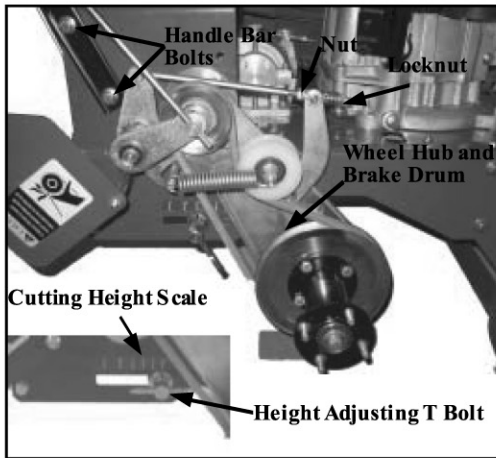
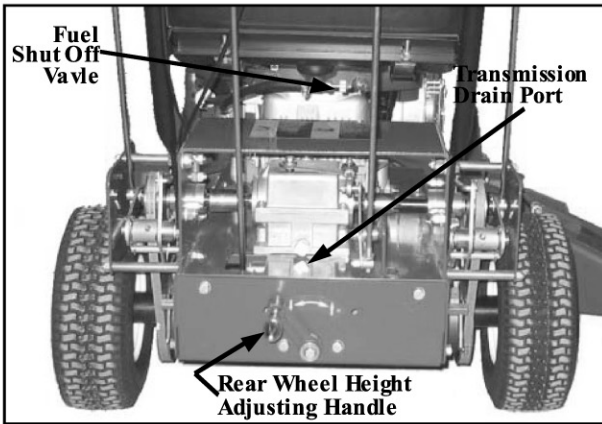

FIG 11 Brake Linkage
FIG 15 Rear Wheel Height Adjustment
WHEEL BRAKE ADJUSTMENT FIG 11
5. To adjust the Rear Wheel settings refer to FIG 11. Loosen both height adjusting T-Bolts. Unlock the Rear Wheel Height Adjusting Handle FIG 15. Rotate the Handle clockwise to raise and counterclockwise to lower the Rear Wheels. Align the pointer on the register mark which corresponds with the number of Caster Spacers on the bottom of the Caster Wheel Bracket.